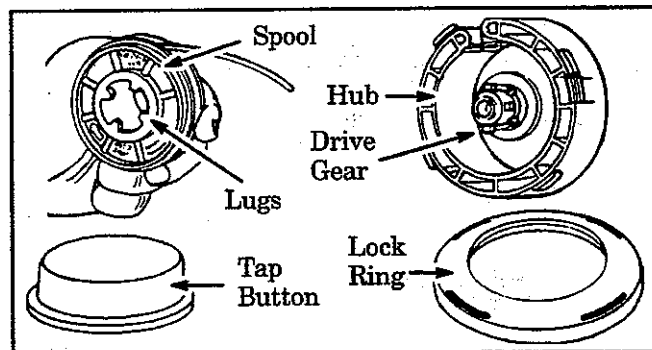

Figure 12
- c. Remove the lock ring, tap button, and spool. Figure 12.
- g. Set the spool into the hub. Press the spool down; turn and lock the spool lugs under the drive gear. Figures 12 & 13.